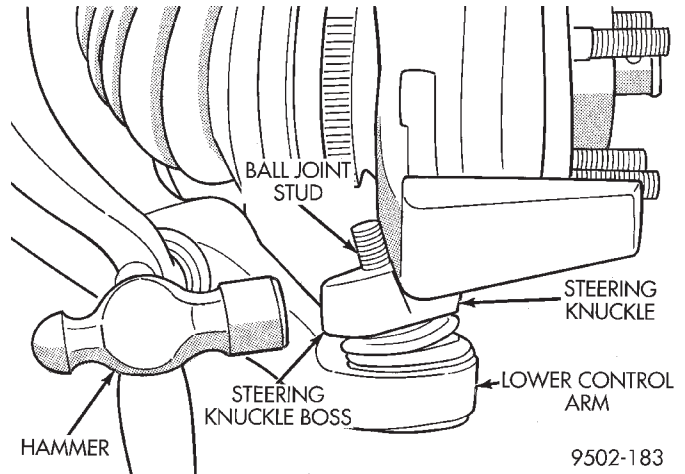

Fig. 11 Separating Ball Joint Stud from Steering Knuckle
(13) Turn steering knuckle so the front of the steering knuckle is facing as far outboard in the wheel well as possible. Using a hammer strike steering knuckle boss until steering knuckle separates from stud of lower ball joint (Fig. 11). **When striking steering knuckle, care MUST be taken not to hit lower control arm or ball joint grease seal.**